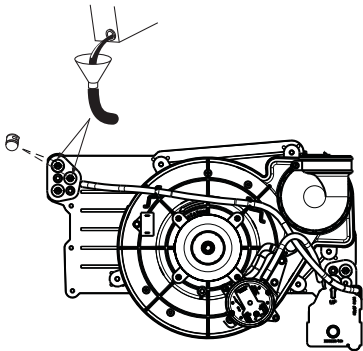

Fig. 59 - Priming Condensate Trap
1. Remove upper and middle collector box drain plugs opposite of the condensate trap. See Fig. 59.
2. Connect field-supplied 5/8-in. (16 mm) ID tube with attached funnel to upper collector box drain connection. See Fig. 59.